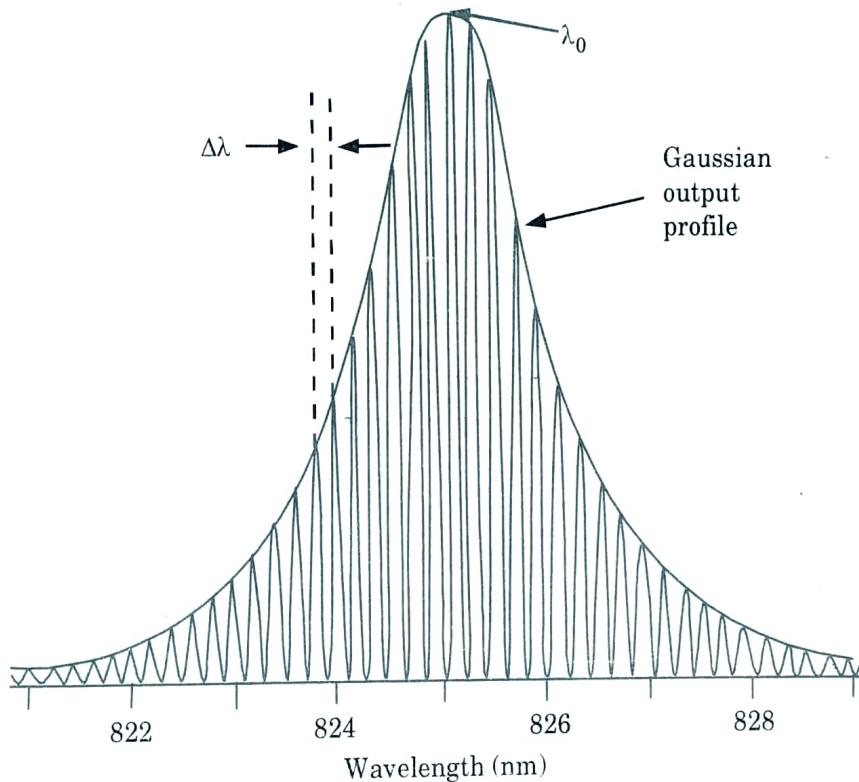

Fig. 3.16.1. Typical spectrum from a Fabry-Perot GaAs / GaAs Laser diode.
7. The output spectrum of a multimode laser follows the typical gain versus frequency plot given in Fig. 3.16.1 where the exact number of modes, their heights, and their spacing depend on the laser construction.